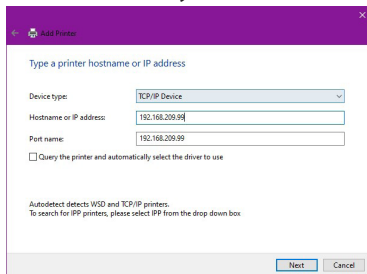

Figure 23
6. On the **Add Printer** screen, on the **Hostname or IP address**, field enter the **New IP address** assigned to the **Print Server** [as shown in **Step 4.a** on **Page 14**] from the **Configure the Print Server via a Web Browser** section. Then click **Next.** (Figure 23)